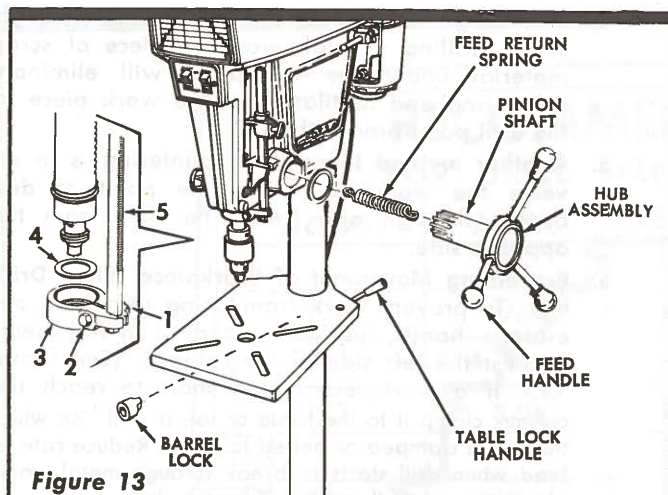

Figure 13
1. Clamp the quill with the quill lock knob; loosen the 1/4-20 feed stop collar clamping nut (1, figure 13), reposition feed stop collar (3) upward as far as it will go, then tighten the feed stop collar clamping nut (1).
2. Make sure the feed stop rod (5) is positioned properly in the guide slot of the drill press head. When the feed stop collar is removed in order to install the mortising attachment (Catalog No. 9-2465), use the washer (4, figure 13) in the mortising attachment clamping collar and eliminate spindle play as described in preceding paragraphs.
To change the locked position of table lock handle or drill press head lock handle, unscrew the handle from barrel lock and rotate barrel lock 180°. Re-insert the lock and tighten lock handle (See figure 13.)
If the automatic feed return fails to return the quill to the top of the stroke, or if the return action becomes sluggish, the feed return may be adjusted as follows: (See figure 13.)
4. In order to maintain smooth operation of pinion, pull pinion shaft (Figure 13) out and lubricate occasionally with cup grease.